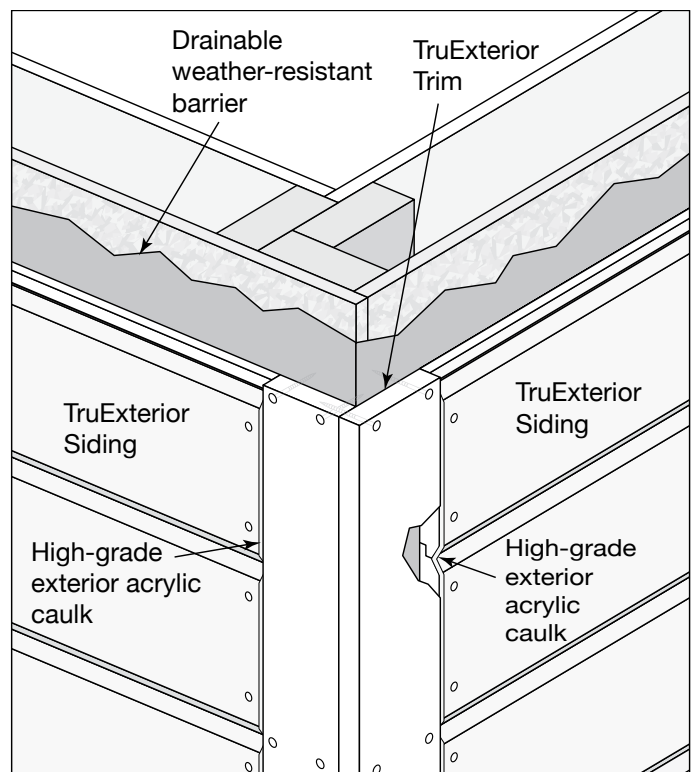

Fig. 9b: Outside corner detail, no gap and with caulk
- Typical outside corners are created using 1"x5" and 1"x6" trim, installed using blunt-tipped, roundheaded stainless steel or hot-dipped galvanized nails, or #6 or larger exterior coated or stainless steel trim-head screws (Fig. 9b).
- Secure each trim piece with 2 nails every 16" along the length of each piece of trim, staggering the nail pattern slightly to prevent opposing nails from contacting each other (Fig. 9b).
- Ensure that the nails penetrate the framing and the nails of the longer trim piece penetrate the shorter trim piece at the corner (Fig. 9b).
- Butt each course of siding up to the corner trim and secure in place (Fig. 9b).
- Seal the joint between the outside corner trim and the siding with high-grade, exterior acrylic caulk (Fig. 9b).